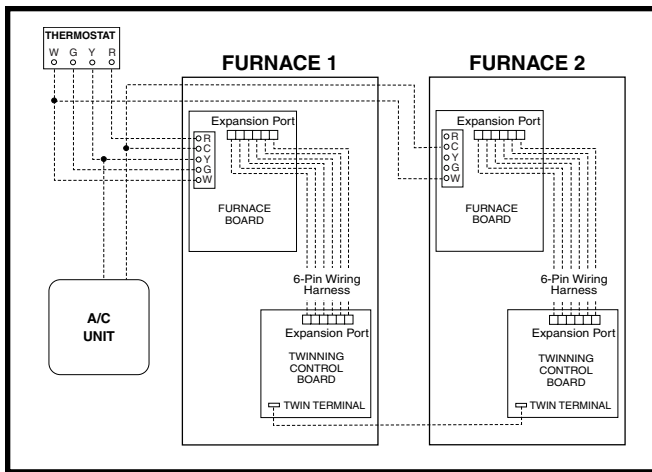

Figure 29. Single Stage Twinning
If both single stage furnaces are upgraded to the fixed speed iSEER™ blower, the twin terminal on the blower control boards (Figure 29) may be used to twin the single stage furnaces only if the following criteria are met:
For twinning of single stage furnaces equipped with fixed speed iSEER™ blowers, refer to Figure 29 \(page 30\) and the following instructions:
3. Refer to Figure 29 for the remaining thermostat connections. The **C** connection must be made between the twinned furnaces to ensure proper performance.